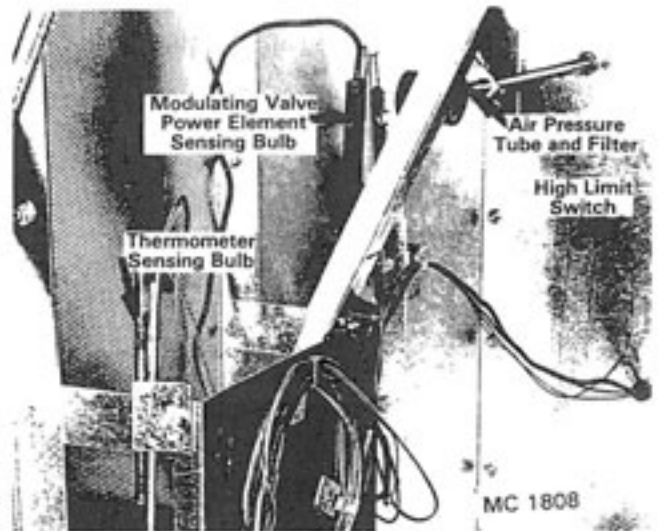
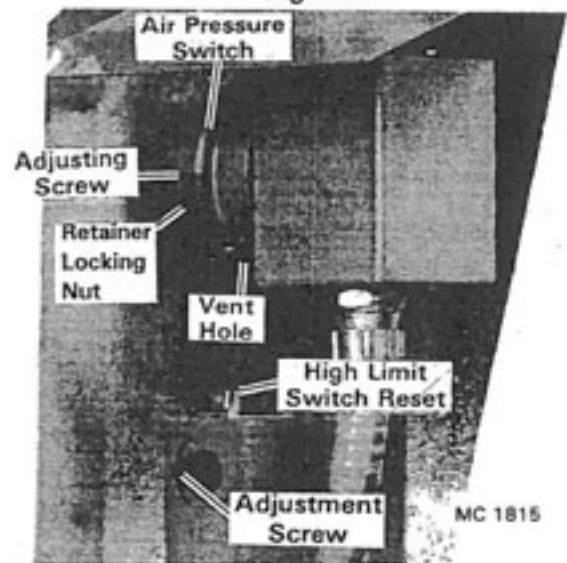

Figure 32
Figure 32A
- Remove the air pressure switches and clean the tube and filter, see Figure 32. Be sure the vent hole in the bottom of the air pressure switch body is open, see Figure 32A.
5. Turn on the electric power supply to the dryer. Flip the control circuit toggle switch ON. The control circuit ON light and high limit lights will be on. If any high limit light is not on, push the reset button on the high limit switch, see Figure 32A.